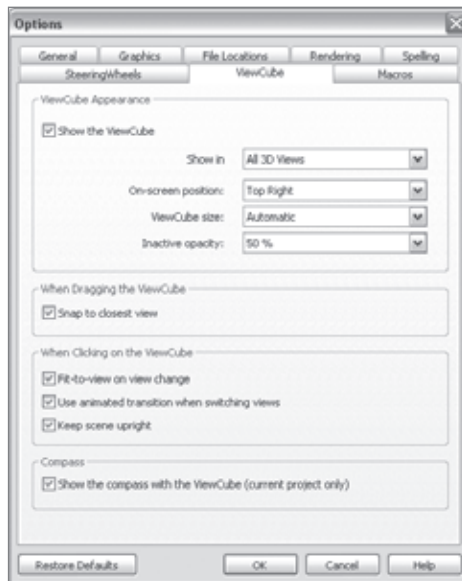

Figure 2.86
**ViewCube** This tab allows you to set the appearance of the ViewCube as well as some behavioral and scene settings, as shown in Figure 2.86.